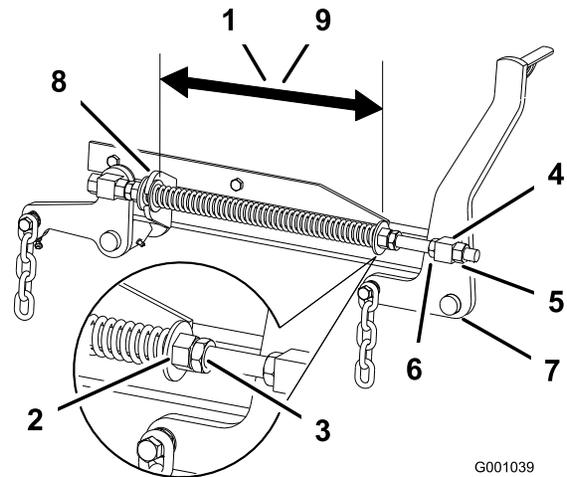

Figure 83
2. Check the distance between the two large washers, it needs to be 28.2 cm (11-1/8 inches) for 52 inch mower decks and 26.7 cm (10-1/2 inches) for 60 inch mower decks (Figure 83).
3. Adjust this distance, by loosening the spring jam nut and turning the nut in front of each spring (Figure 83).
4. Lock the nut into position by tightening the spring jam nut (Figure 83).